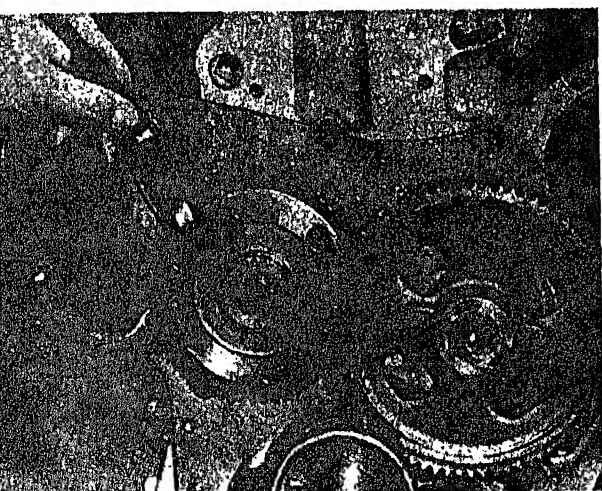

Fig. 14-1-23. Checking clearance between thrust washer and gear
4. Check clearance between outer thrust washer and gear, Fig. 14-1-23; clearance should be 0.007/0.009 [0.1778/0.4826 mm].